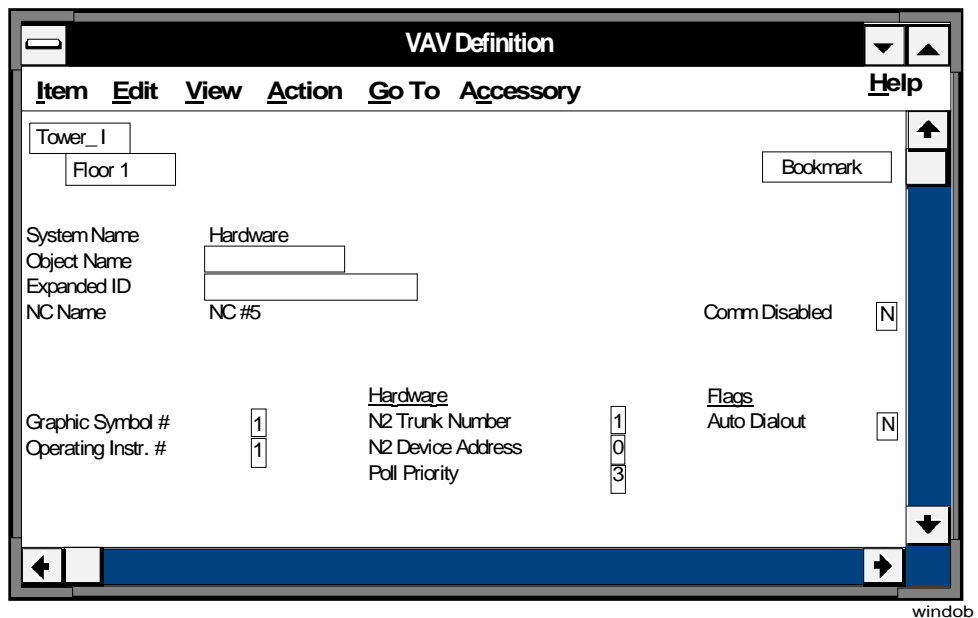

Figure 5: VAV Control Device Object Definition Window
7. Click OK to display the VAV Definition window (Figure 5).